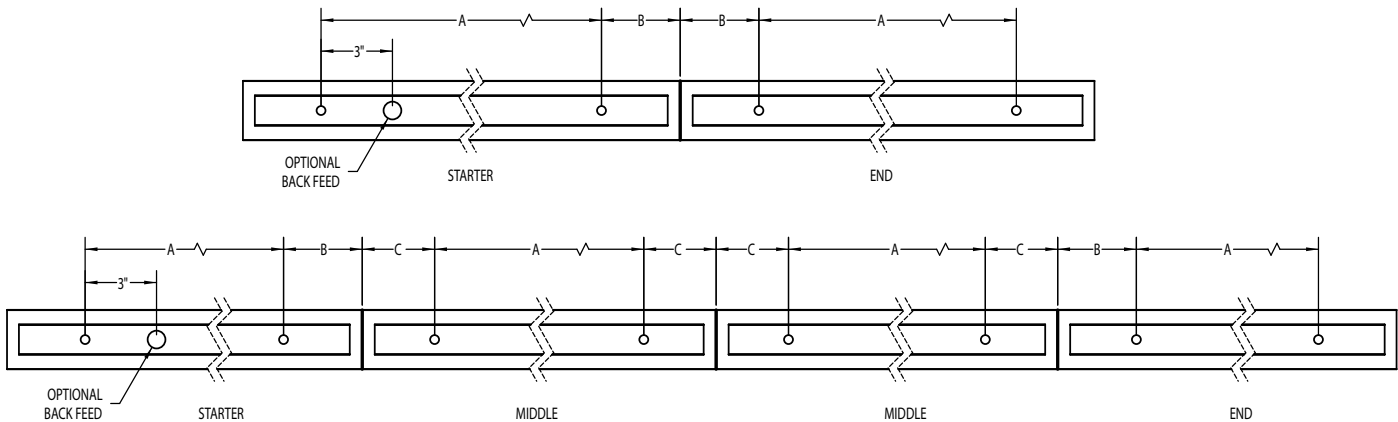

FIG. 1
6. Drill pilot holes for 1/4" mounting screws (by others). See fig. 1 and tables for mounting screw centers.